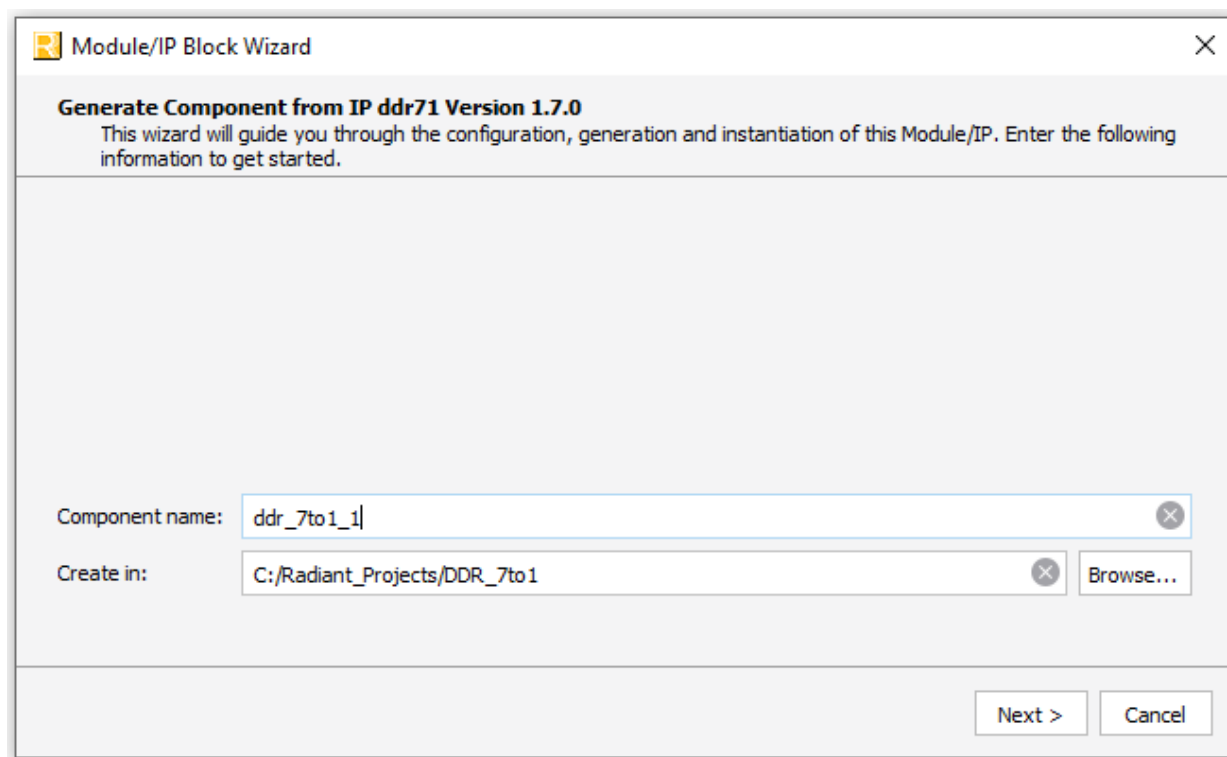
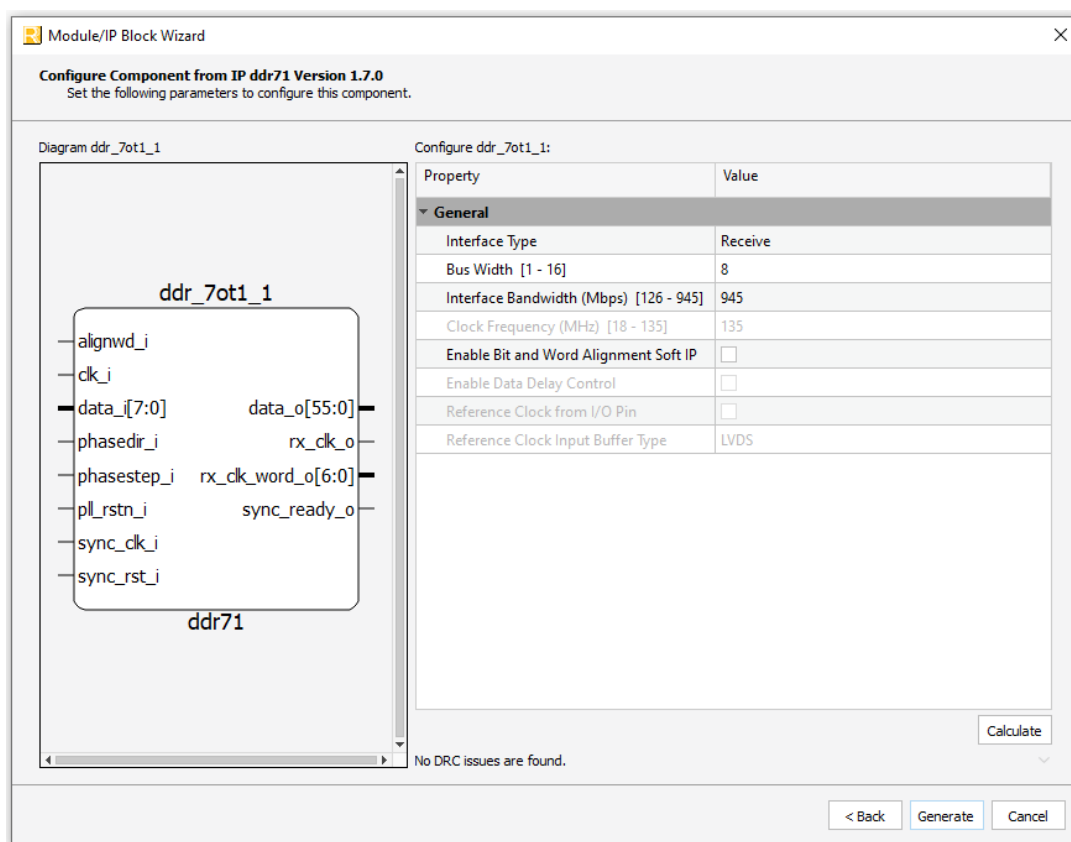
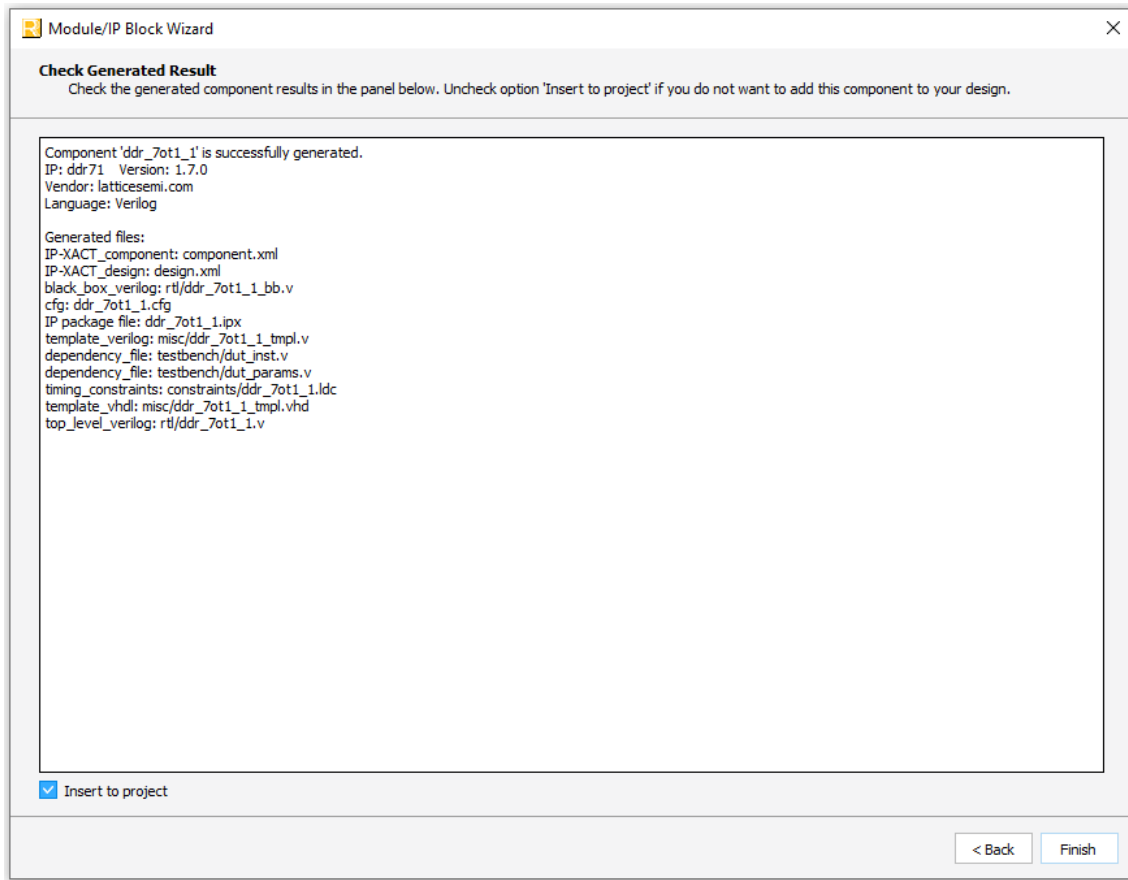

Figure 3.1. Module/IP Block Wizard
Figure 3.2. Configure Block of GDDR 7:1 I/O Module
Figure 3.3. Check Generated Result
In the **IP Catalog** tab, double-click on **GDDR 7:1** under **Module, Architecture_Modules, I/O** category. The **Module/IP Block Wizard** opens as shown in Figure 3.1. Enter values in the **Component name** and the **Create in** fields and click **Next**.
- In the module's dialog box of the **Module/IP Block Wizard** window, customize the selected GDDR 7:1 I/O module using drop-down menus and check boxes. As a sample configuration, see Figure 3.2. For configuration options, see the Attribute Summary section.
- Click **Generate**. The **Check Generated Result** dialog box opens, showing design block messages and results as shown in Figure 3.3.
- Click the **Finish** button. All the generated files are placed under the directory paths in the **Create in** and the **Component name** fields shown in Figure 3.1.
IP Generation, Simulation, and Validation	Updated Figure 3.1. Module/IP Block Wizard, Figure 3.2. Configure Block of GDDR 7:1 I/O Module, Figure 3.3. Check Generated Result reflecting the most recent Lattice Radiant software user interface.
IP Generation, Simulation, and Validation	Updated the heading of Section 3 from “IP Generation and Evaluation” to “IP Generation, Simulation, and Validation”. - Removed “Licensing the IP” section. Updated the heading of Section 3.1 from “Generation and Synthesis” to “Generating the IP”. - Updated Figure 3.1. Module/IP Block Wizard, Figure 3.2. Configure Block of GDDR 7:1 I/O Module, Figure 3.3. Check Generated Result. Updated the heading of Section 3.3 from “Hardware Evaluation” to “IP Evaluation”.